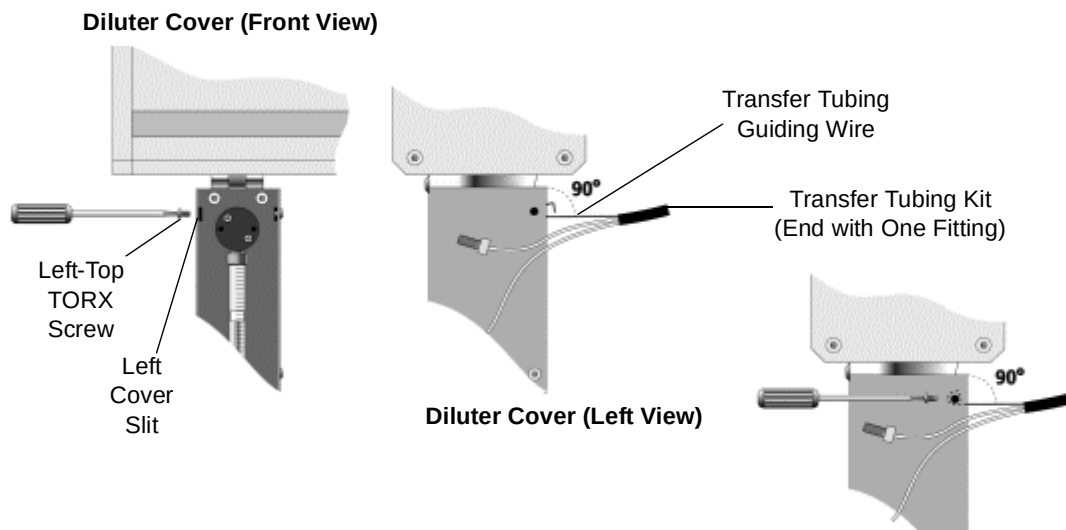

Figure 2-28 Attaching the Transfer Tubing Kit to the Dilutor Module
1. Unscrew the left-top TORX screw from the dilutor cover (Figure 2-28).